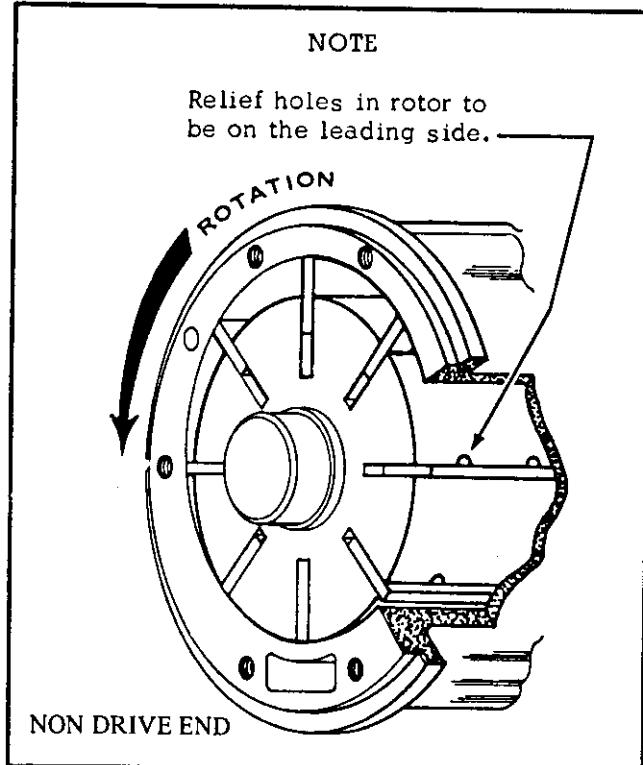
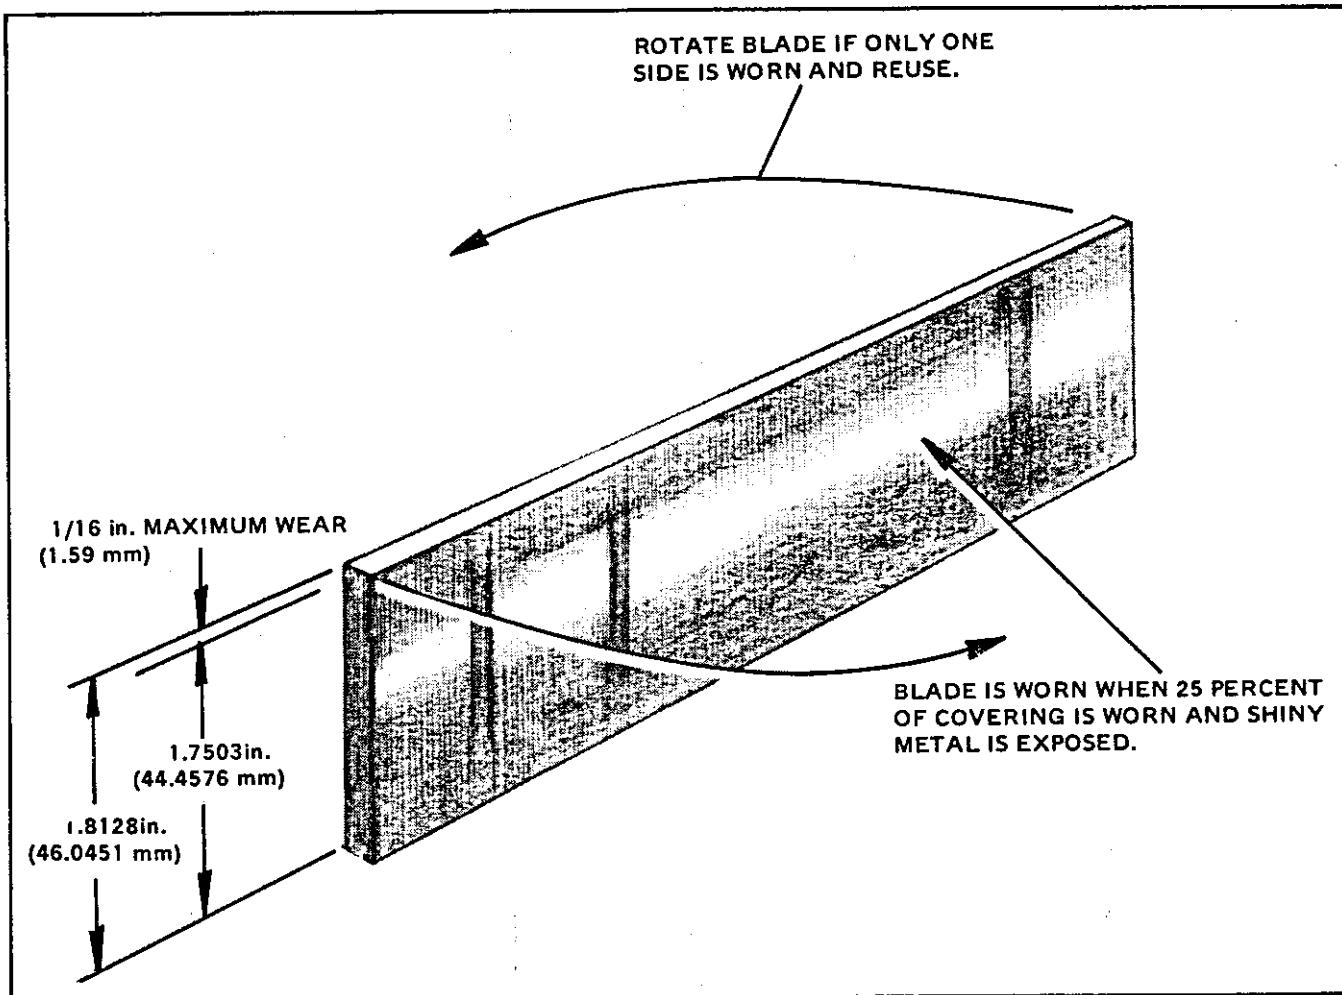

Figure 3-4. Compressor rotor installation
Figure 3-6. Rotor Blade Inspection
f. Replace blades (88, Fig. 5-18 and Fig. 3-6) when coating is worn off and bare metal is exposed on blade sides. If one side of blade is not worn, rotate blade 180 degrees and replace in slot. Blades should slide freely in slots. (Also, see Fig. 3-4.)
ing instructions. Heat bearing inner races (1 and 7) evenly in hot cooking oil to a maximum of 350°F. Install inner race (7) on shaft to shoulder. Assemble outer race (6) and spacer (5) on bearing inner race. Press bearing and shaft into cover (9). Place key (3) in shaft and slide rotor on shaft, making sure relief slots in rotor are leading in the direction of rotation (Fig. 3-4). Place heated bearing inner race (1) on shaft to shoulder. Complete assembly, referring to Figures 5-18 and 3-5.